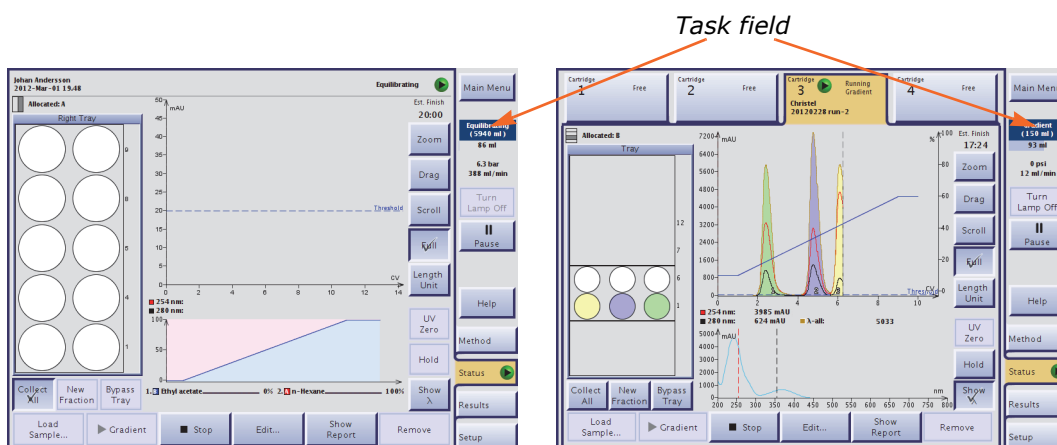

Figure 1-8. Chemistry Mode (Isolera LS and Isolera Four EXP with Isolera Spektra License Shown)
Enter the Chemistry mode either by pressing **New** (to go through the Assist Workflow) or **Chemistry** in the main menu. In the Chemistry mode, the software is divided into four (4) tabs that can be accessed in the right-hand panel (see Figure 1-8). Here is a short description of what you can do at each tab: